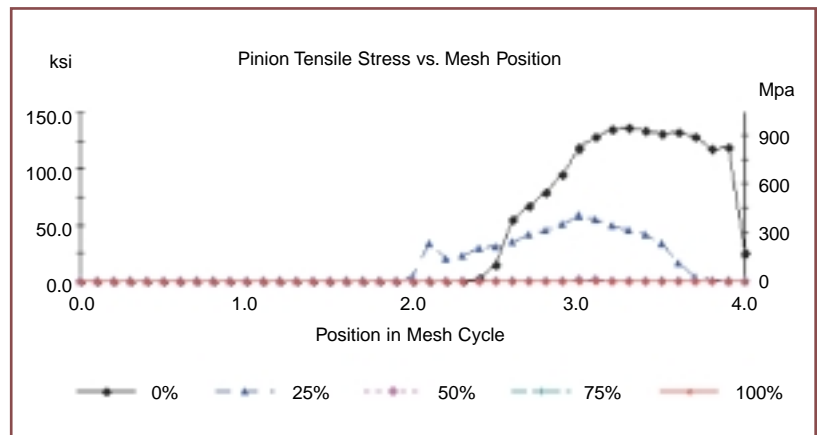

Figure 5—Effect of second-stage pinion deflections on the pinion root stresses along the face width (without tooth modification).
- The maximum contact stress increases 3.6 times and the maximum pinion root stress increases 4.5 times compared with that of the stresses prior to considering shaft deflection due to loading of the second stage pinion (Fig. 5).